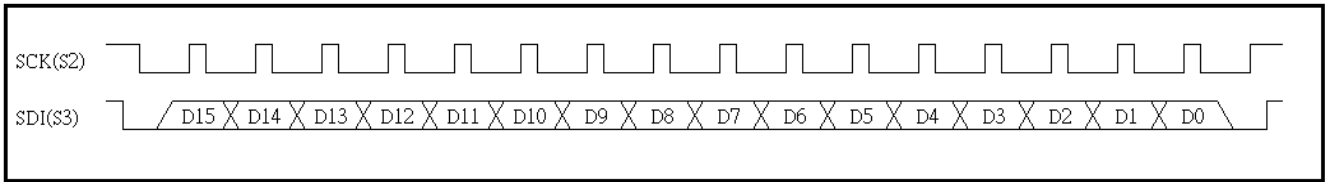
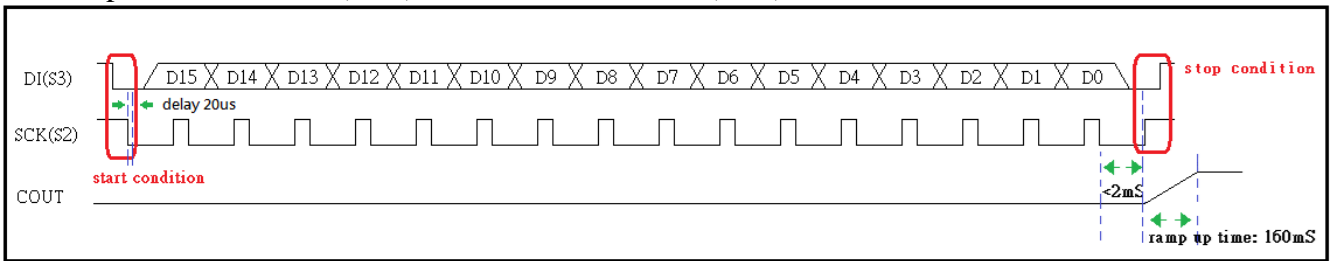
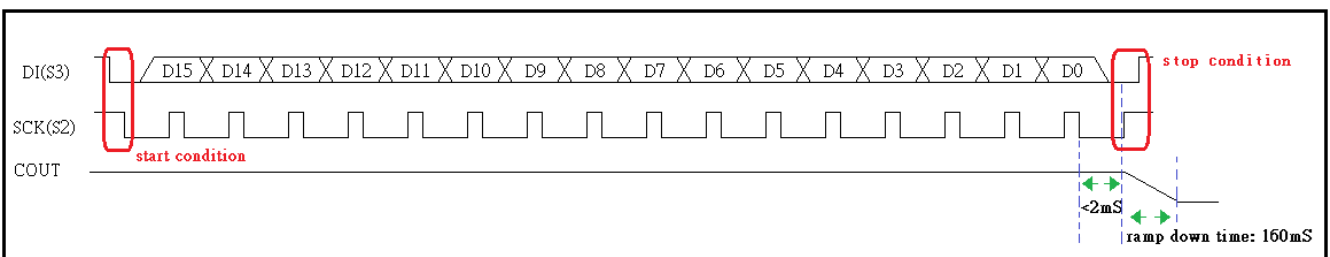

Fig.19 I2C Command timing
Fig. 20 Power-Up command timing
Fig. 21 Power-Down command timing
- (1). Load Voice Group Address :
- a. Command timing reference Fig.19 I2C Command timing.
- (2). Play Voice Group Address :
- (3). Power up with RAMP-UP(PU2) or without RAMP-UP(PU1) :
- a. Command timing reference Fig. 20 Power-Up command timing.
- (4). Power-down with RAMP-DOWN(PD2) or without RAMP-DOWN (PD1) :
- a. Command timing reference Fig. 21 Power-Down command timing.
- (5). Volume Set (VOL[3:0]) :
- (6). Volume ++ (VOL++) :
- (7). Volume -- (VOL--) :
- (8). Pause and Resume (PAUSE; RESUME) :